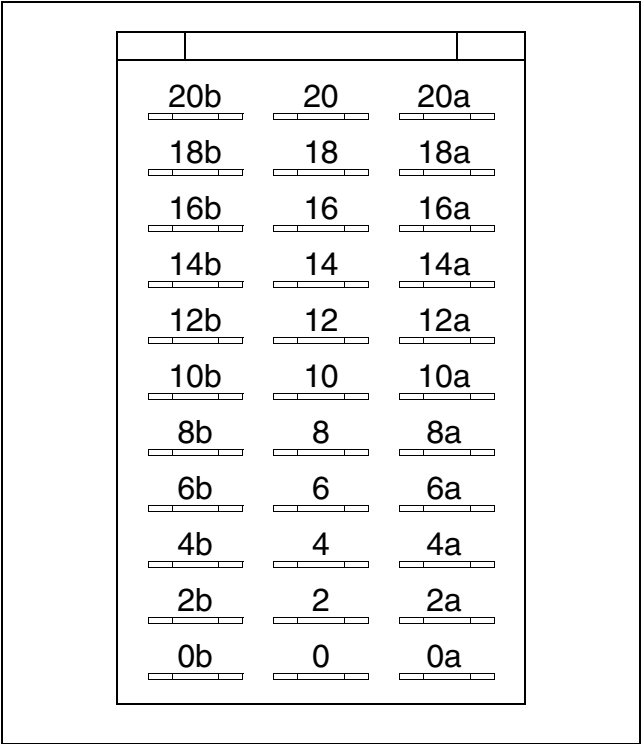

Figure 14
6. The even-numbered side of the program timer can be configured with jumpers to adjust the rinse temperature or to change the water level for the wash step. Refer to *Figure 14*.